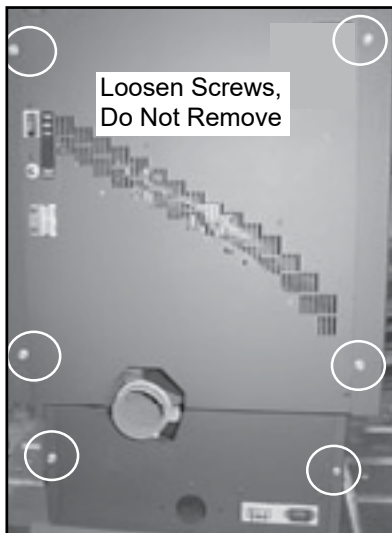

Figure 24.1
4. Loosen the 4 screws on the upper back panel and the 2 screws on the lower back panel, using a #2 Phillip Head screwdriver, a 3/8 inch wrench or a 3/8 Inch socket. You do not need to remove them (**Figure 24.1**).